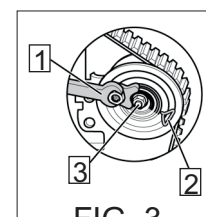
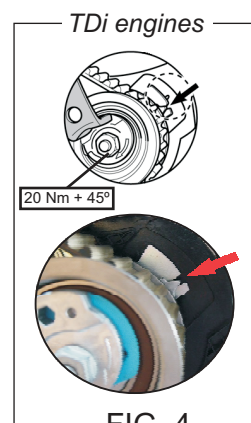

FIG. 3
FIG. 4
- ⑤ Mount timing belt starting at crankshaft pulley.
- ⑥ *ASY engine code*: Fit the camshaft pulley at belt; then, fit the camshaft pulley with the belt at camshaft. After, fit camshaft pulley bolt and tighten by hand.
- ⑦ *TDi engines*: Turn the tensioner counterclockwise with the specific wrench (1) [FIG. 3] or allen key, until your able to remove lock pin (2) [FIG. 3].
- ⑧ *TDi engines*: Turn the tensioner clockwise with the specific wrench (1) [FIG. 3] or allen key, until the mobile indicator is aligned with the groove [FIG. 4]. Then, tighten the tensioner nut to the tightening torque (20 Nm + 45°).